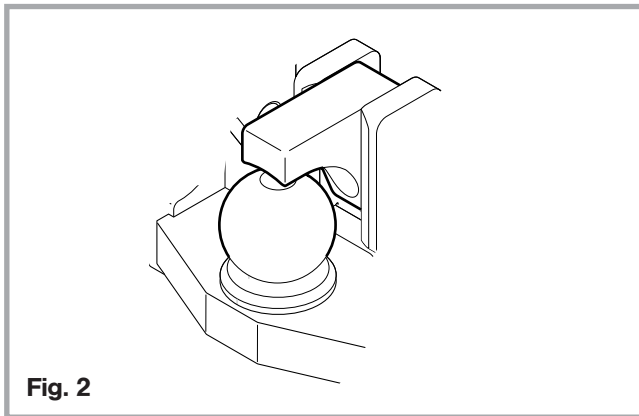

Fig. 2
- may only be used in conjunction with approved coupling balls 80 mm in accordance with ISO 24347 with the corresponding latch (see Fig. 2).